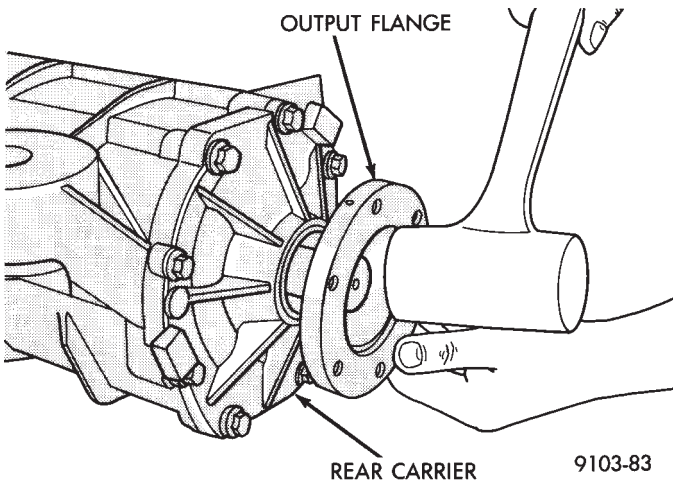

Fig. 7 Installing Output Shaft
(3) Install output shaft (Fig. 7). Lightly tap shaft to seat retainer ring into differential side gear.